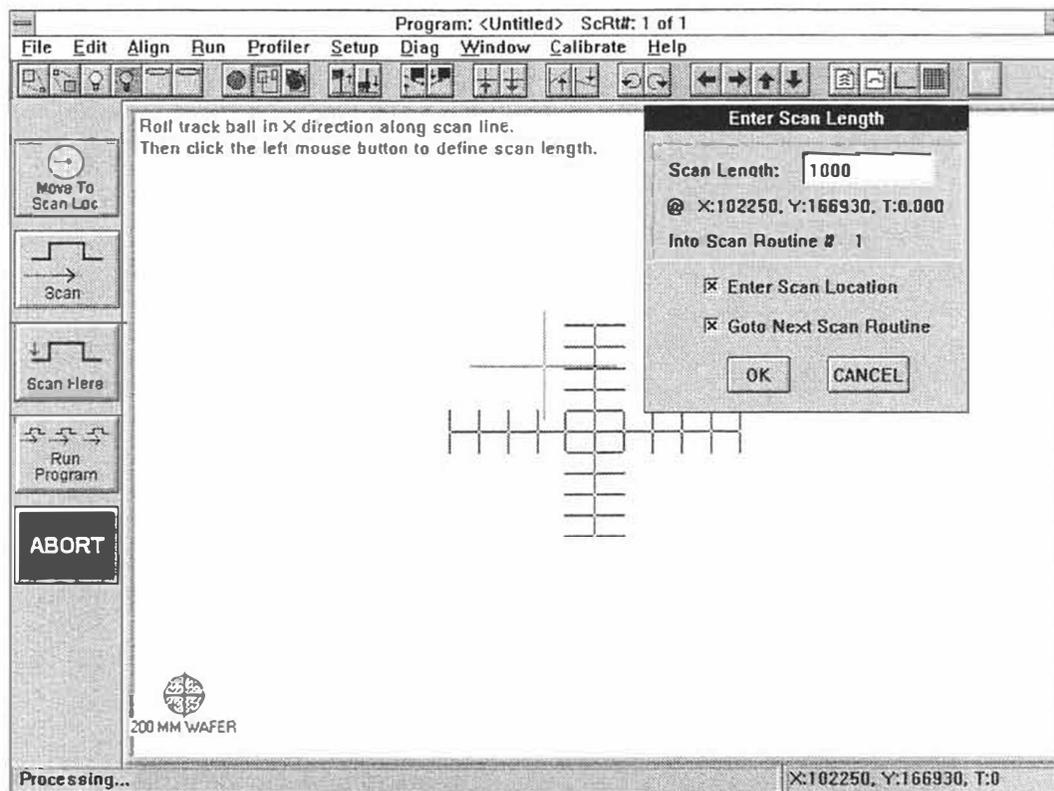

Figure 4-2. Entering 1000 Micron Scan Length into a Scan Routine
2. With the stylus tower down, activate fine sample positioning by clicking-on the video image of the sample positioning screen. The stage should now track the motion of the trackball. Position the stylus reticule to the left of the "dog-bone" step of the calibration standards shown below (the image in Figure 4-2 is shown at minimum magnification). With the stylus reticule properly positioned, click the track ball a second time to deactivate the stage.
4. The "Enter Scan Length" window will be displayed (Figure 4-2) allowing the scan length to be altered. For this exercise, click-on the "Scan Length" box and enter a scan length of 1000 microns. The "Enter Scan Location" box should be activated, indicated by an "X" in the box. Click-on "OK" to enter the scan length and scan location into the Scan Routine Program.